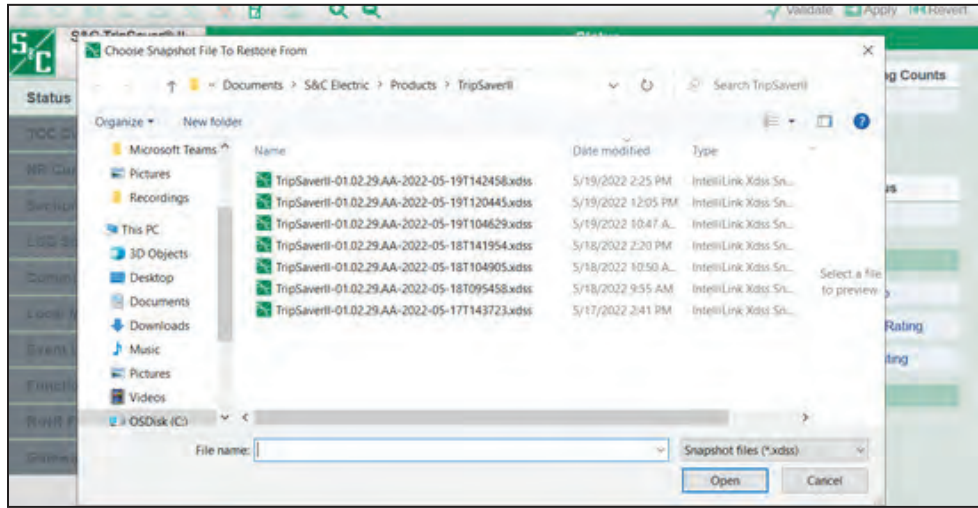

Figure 168. Snapshot files in the Documents>S&C Electric>Products>TripSaver II folder.
**STEP 4.** When prompted, navigate to the snapshot (.xdss) file in the Documents>S&C Electric>Products>TripSaver II folder and choose the most recent snapshot file having the TCMR number matching the TripSaver II recloser being restored. See Figure 168.